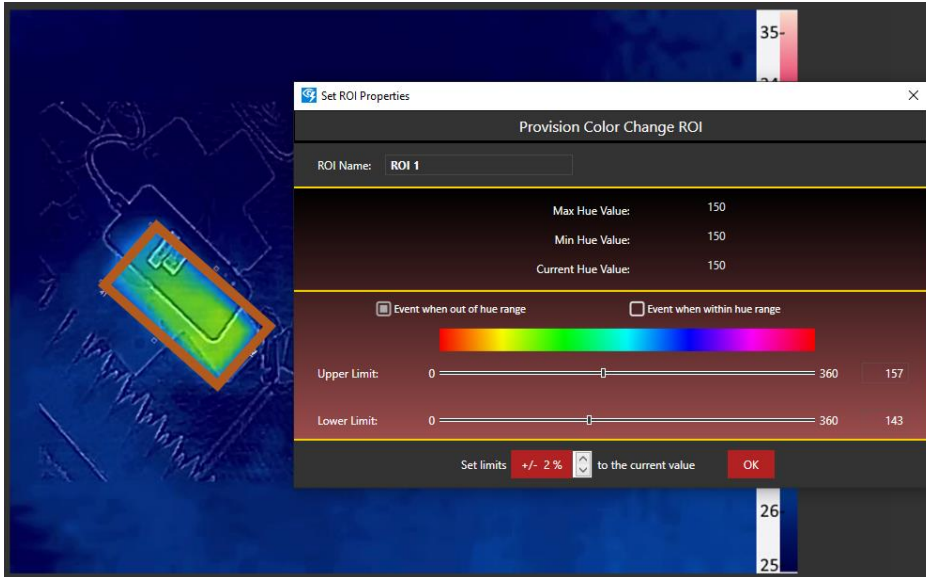

Figure 3-2: Placing the ROI and setting limits to +/- 2%
- ▶ Select the ROI "Color Change" and place it over your EUT, as it is shown in Figure 3-2. Here the ROI covers the whole smartphone. For more detailed information about the Color Change ROI, please refer to the user manual.
- ▶ Then set the limits of the ROI to a percentage that matches your test case. If you want to have only bigger changes detected, you can choose something around 5 to 10%. If you want to detect all changes, even small ones, better choose something around 2% as shown in Figure 3-2.